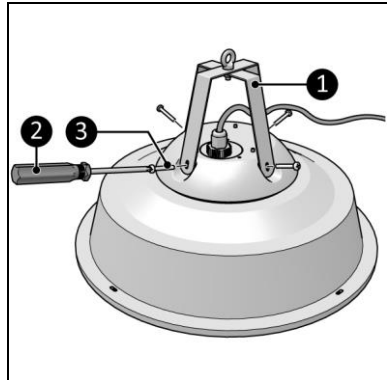

Figure 5
2. Screw and tighten the brackets (Figure 5, pos. 1) to the device with the four screws (Figure 5, pos. 3) and a Phillips screwdriver (Figure 5, pos. 2).